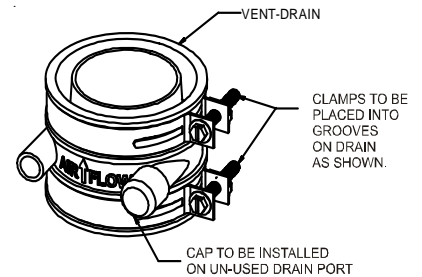

Figure 9B
**COMBUSTION AIR INTAKE OPTION:** The RF000142 coupling can be secured directly to the furnace intake coupling if condensation is a concern. If the RF000142 is used on the combustion air inlet, it must be installed with the arrow pointing up. It should be noted, the combustion air will actually be moving in a direction opposite of the arrow on the RF000142 coupling. It must have a field supplied, trapped drain tube free-draining to proper condensate disposal location. A loop in the drain tube can serve as a trap. The unused RF000142 drain fitting should be capped. (See Figure 9B)